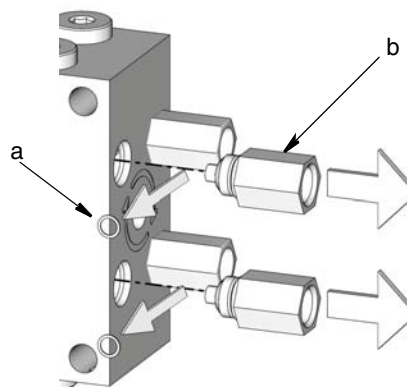

FIG. 2
- Remove the outlet adapter (b) and face seal (a) from outlet that is going to be combined (FIG. 2).